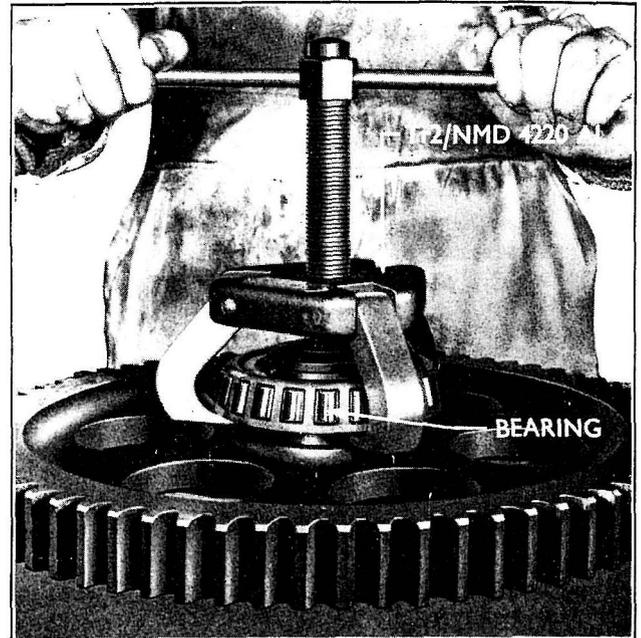

Fig. 173
- 8 Remove the bearing from the large reduction gear, using tool No. Tr2/NMD 4220-A1. Insert the adaptor in the splined hole of the gear and the tool claws fitted under the bearing, apply the centre screw to remove the bearing as shown in Fig. 173.